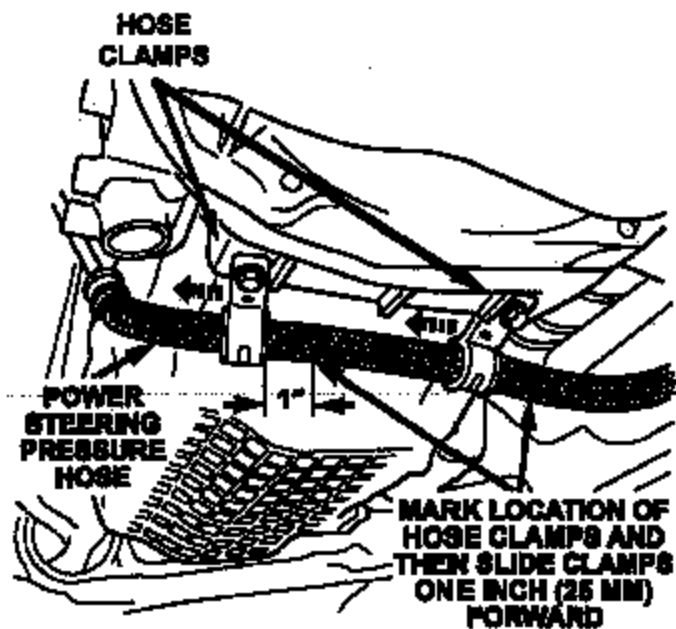

Figure 3
4. Mark the location on the power steering hose of the two (2) clamps that secure the power steering hose to the rear of the engine (Figure 3).
5. Disconnect the two (2) clamps that secure the hose to the rear of the engine (Figure 3).
7. Slide both hose clamps forward one (1) inch each on the hose (Figure 3).
8. Attach the two (2) hose clamps to the engine and tighten to 75 in-lbs (8.5 N-m).